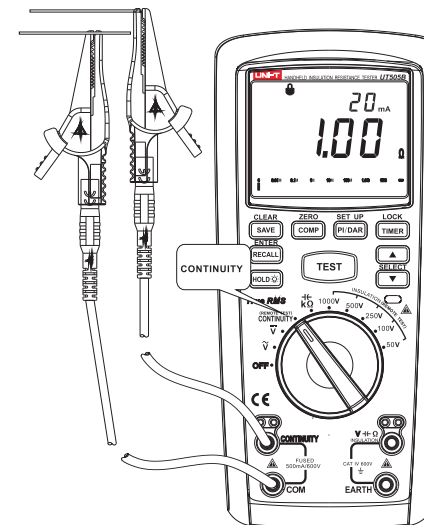

Figure 6
3. Measuring of CONTINUITY (See Figure 6)
- ① Insert the red probe into "CONTINUITY" jack (red jack), and black one into "COM" jack (black jack).
- ② Rotate dial switch to "CONTINUITY" tap position and connect the probe to the circuit tested in parallel.
- ③ Press the key of "TEST" and measured value will be displayed on the display.
- ④ In measuring, if intending to save measured voltage, press the key of "SAVE/CLEAR" for saving.
- ⑤ In order to guarantee measuring accuracy, it is necessary to reset the instrument probe before measuring, which is aimed at eliminating error from the probe; specifically, short-circuit the alligator clips of two probes, press the key of "TEST" and display reading will be resistance of lower than 2.00Ω . Hold "COMP/ZERO" for 3s and symbol of "ZERO" will be displayed on the top left corner of the display and display reading will be " 0.00Ω ", indicating zero success. In the test, if fuse loses efficacy, instrument display will display warning character of "FU FAIL" and stop testing, which reminds users that fuse has failed, and fuse shall be replaced before reusing.
- ⑥ If intending to activate buzzing function (when testing value is not higher than 30Ω , buzzer will give out long ring), please set in SET UP function. When LCD displays "bu ON" or "bu OFF", switch to OFF with UP/DOWN key and press ENTER to disable the buzzing function. Switch to ON and press ENTER to activate buzzing function. When using buzzing function, please be sure that comparing function is disabled.